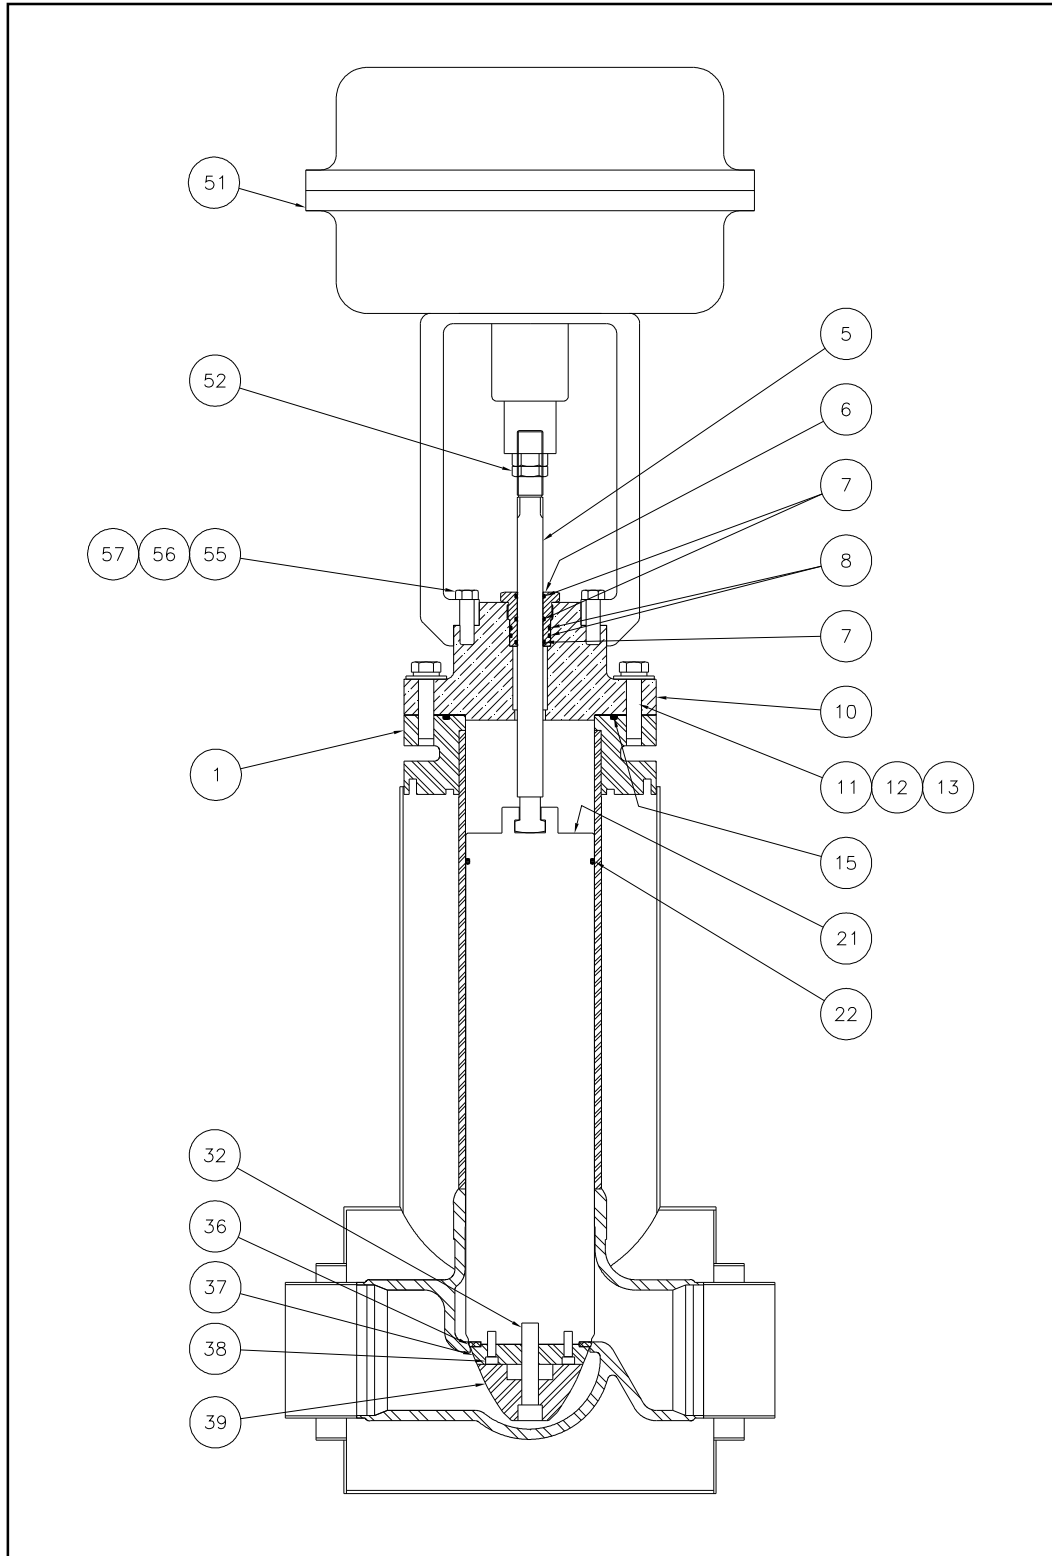

Figure 2 – Parts Diagram, 6" to 8" NPS
- Remove and replace the Seal Disc. The bevel on the outside diameter of the Seal Disc **must** be oriented as shown in Figure 2.